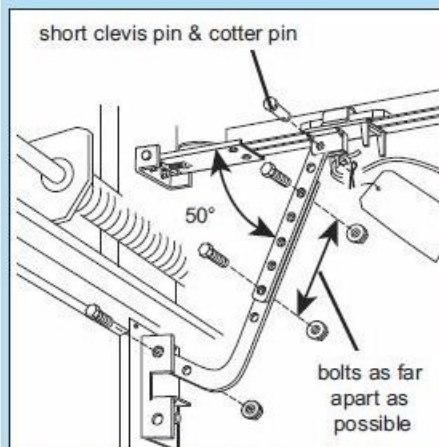

FIG 2-9 Attaching door arms.
- Fasten short branch of curved door arm to door bracket using bolt and locking nut (Fig. 2-9).
- Fasten straight arm to carriage using clevis pin and cotter pin (Fig. 2-9).
- With the arms arranged in this position, fasten arms together using bolts and nuts spaced as far apart as possible (Fig. 2-9).